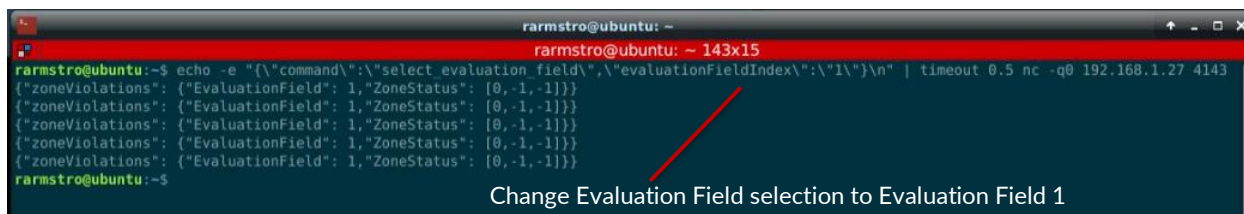

Figure 93. QORTEX Aware: JSON Command Setting Zone 1
- Change to Evaluation Zone 1 using Qortex Aware JSON command. See Figure 93. QORTEX Aware: JSON Command Setting Zone 1.